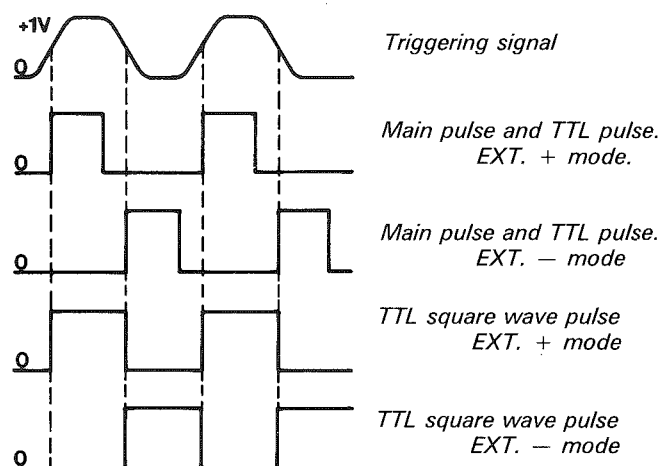

Fig. 6.7. External triggering.
- Select triggering at positive or negative slope of signal by setting switch REPETITION TIME to EXT+ or EXT-. Set duration to 10 μs . Refer to fig. 6.7.
- Observe output pulses having same repetition time as the triggering signal but a pulse duration as set with the DURATION controls. Fig. 6.7.
- Observe an output signal similar to fig. 6.7. Repetition time is the same as for the triggering signal, but pulse duration is set with DURATION control.
- Note that repetition time and duration are determined by the triggering signal. Refer to fig. 6.7.